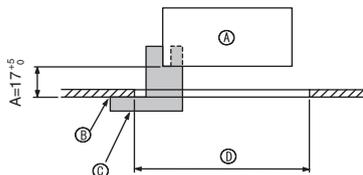
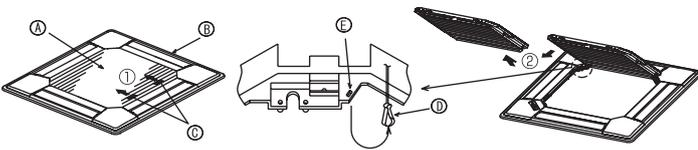
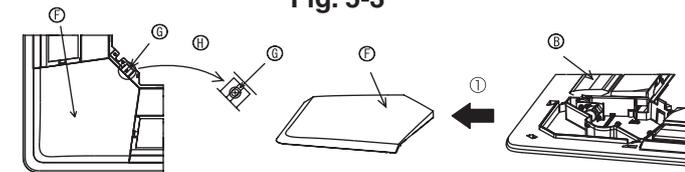

Fig. 5-2
Fig. 5-3
Fig. 5-4
5.2. Preparing to attach the grille (Fig. 5-2)
- With the gauge ③ supplied with this kit, adjust and check the positioning of the unit relative to the ceiling. If the unit is not properly positioned relative to the ceiling, it may allow air leaks or cause condensation to collect.
5.2.1. Removing the intake grille (Fig. 5-3)
- Slide the levers in the direction indicated by the arrow ① to open the intake grille.
- With the intake grille in the "open" position, remove the hinge of the intake grille from the grille as indicated by the arrow ②.
5.2.2. Removing the corner panel (Fig. 5-4)
- Remove the screw from the corner of the corner panel. Slide the corner panel as indicated by the arrow ① to remove the corner panel.
[Fig.5-3, 5-4]